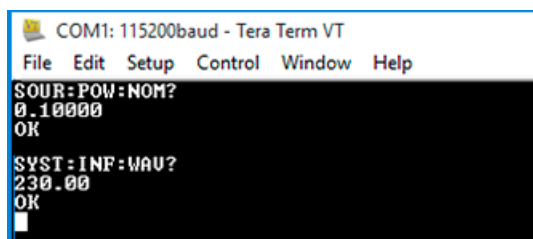

Figure 5-5. Example Query Commands
10. Go to the terminal main window and activate the connection. The example in Figure 5-5 shows query commands used to check the nominal power level and wavelength of the laser.